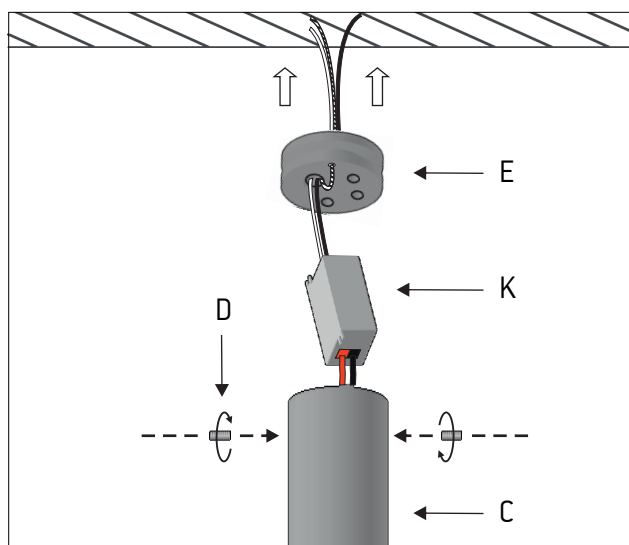

Figure 8A
Make the electrical connections and leave the driver (K) inside the lamp's body (C). Attach the mounting bracket (E) to the ceiling. Figure 8A.